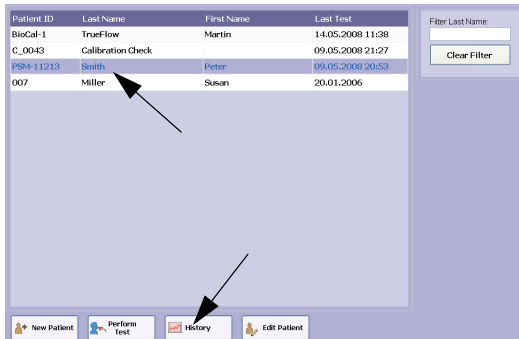

Fig. 3-31 Retrieving/printing stored tests
- Click the **History** button (Fig. 3-31).